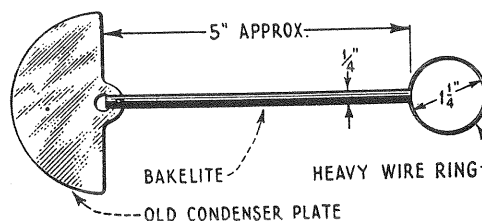

Figure 6—Aligning tool
- (a) Procure or construct a tool as illustrated in Figure 6.